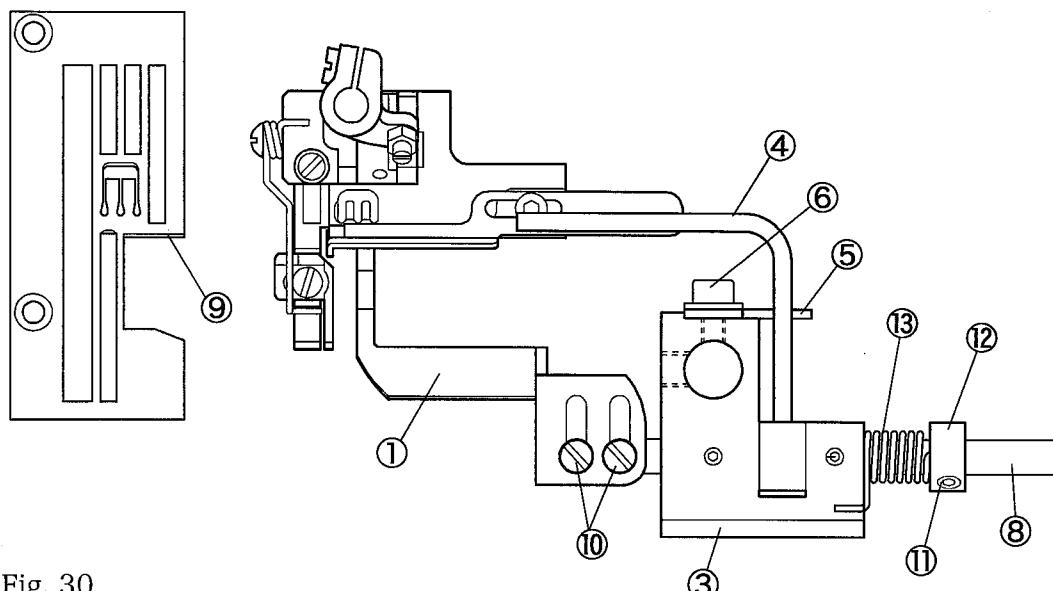

Fig. 30
1. Loosen the screw ② and adjust the height of fabric presser shaft bracket ③ to make the back of fabric presser to be parallel with the top surface of feeding dog and contact to it slightly when the feed dog is at its top dead point.
2. At the highest point of feed dog movement, load the elastic tape to be sewn under the presser foot and make the clearance of 0.5mm between the top surface of right side of presser foot and the fabric presser guide bar ④. For the adjustment, loosen the screw ⑥ on the guide bar stopper ⑤. (Fig. 30)
3. Unload the elastic tape to be sewn and make the clearance of 1.0mm between the back of fabric presser ① and the top surface of stitch plate. For the adjustment, loosen the screw ⑦ on the fabric presser guide bar ④ and rotate the fabric presser shaft ⑧.
4. When the presser foot is lifted up with the needle bar being at the highest point, make sure that the fabric presser ① is lifted up 2.0mm or more from the top surface of feed dog.